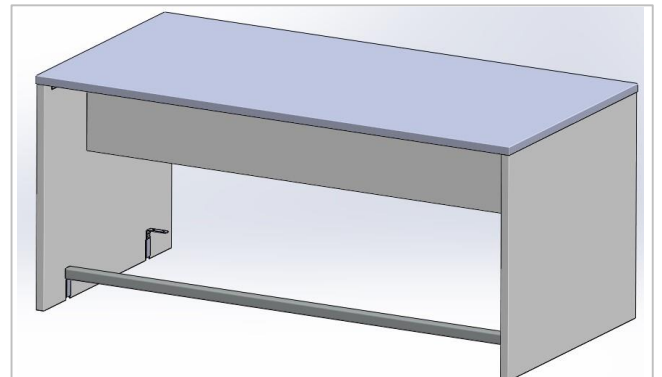

Figure 5
6. Slide footer bar between end panels down over the brackets. (Figure 5).